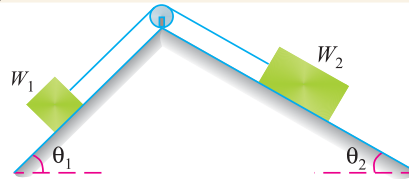

Fig. 16.25.
- Two weights  $W_1$  and  $W_2$  are resting on two smooth planes  $AB$  and  $BC$  at angles of  $\theta_1$  and  $\theta_2$  as shown in Fig. 16.25.